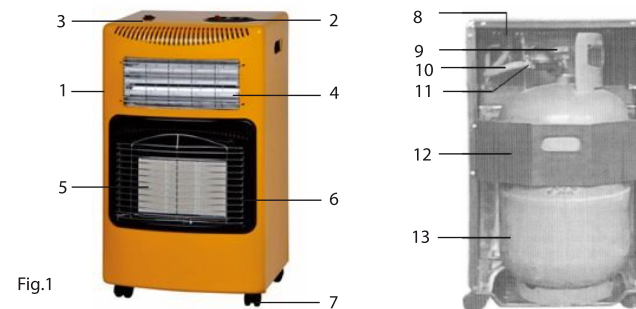

Fig.1
4. Gas-fired heater description (Fig.1)